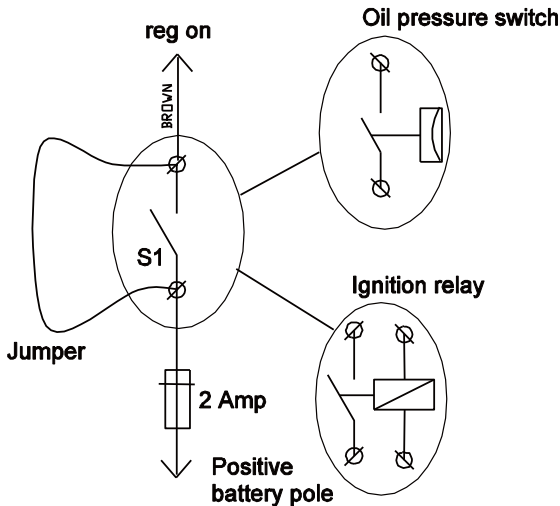

Figure 14: Jumper across switch S1
- 2 Energize the [reg on] terminal by either turning on the ignition switch (DO NOT START THE ENGINE) or by putting a jumper across switch S1 (see Figure 14). Check whether the 3 yellow LED's start to blink. After approx. 10 seconds the yellow bulk led will illuminate.